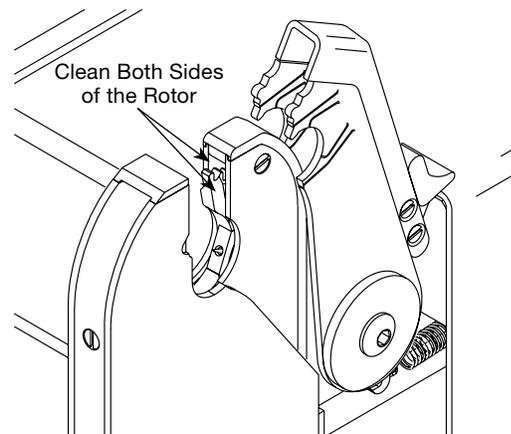

Figure 41 Jogging and Cleaning Both Sides of the Rotor
3. Incrementally jog the rotor and clean both sides of the rotor with a swab and isopropyl alcohol. See Figure 41.